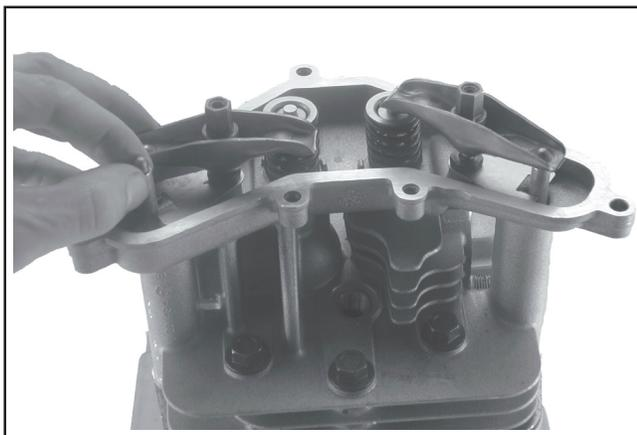

**Figure 10-37. Installing Guide Plates and Rocker Arm Pivot Studs.**
1. Position the push rod guide plates on the cylinder head with the extruded edges "down" over the push rod bores. Secure by installing the rocker arm pivot studs. Torque the studs to **13.5 N-m (120 in. lb.)**. See Figure 10-37.